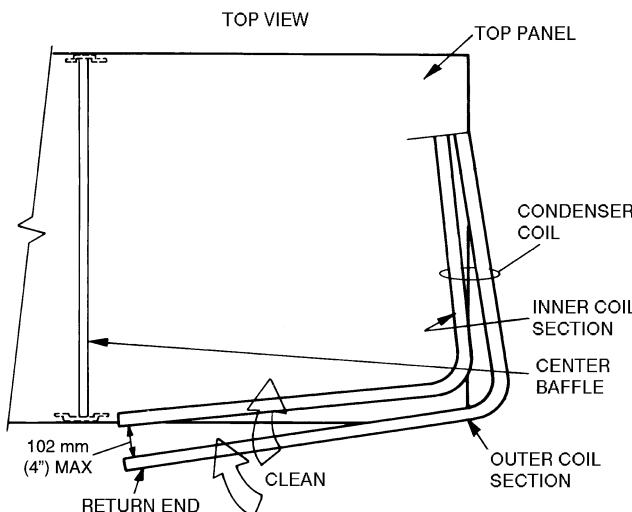

Fig. 28 — Separating Coil Sections
5. Remove fastener holding coil sections together at return end of condenser coil. Carefully separate the outer coil section 76 to 102 mm (3 to 4 in.) from the inner coil section. See Fig. 28.